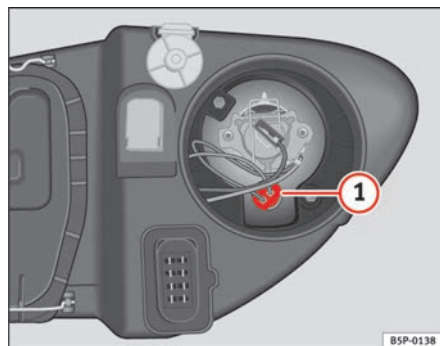

Fig. 192 Side lights
- Extract the lamp holder ⇒ fig. 192 ① outwards.